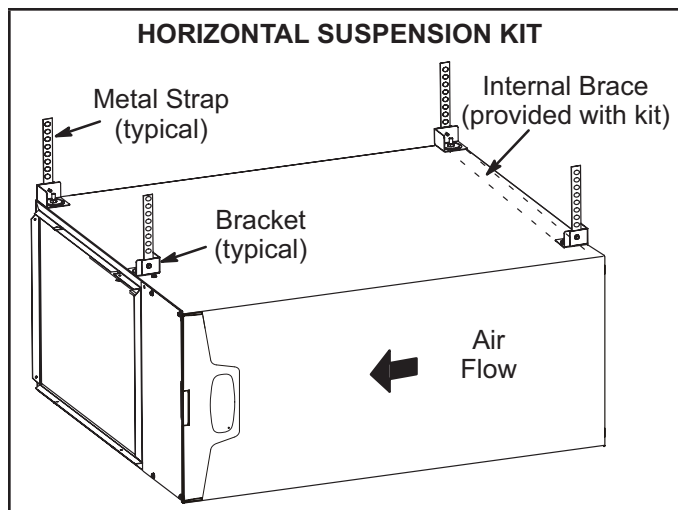

**FIGURE 17**
The EL297UHEK furnace can be installed in horizontal applications with either right- or left-hand air discharge. Refer to FIGURE 17 for clearances in horizontal applications.
- 1 - Select location for unit keeping in mind service and other necessary clearances. See FIGURE 17.